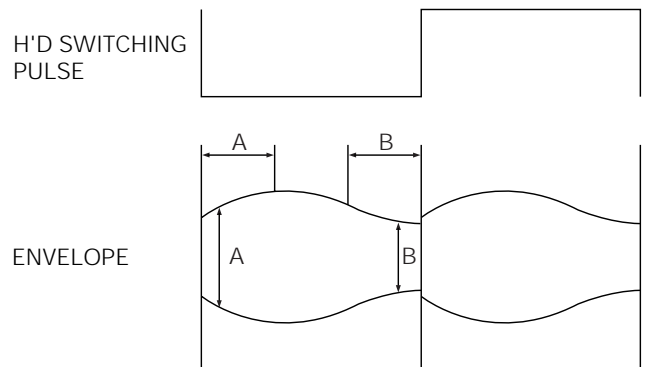

Fig. 4-5-8 Adjustment Points
4. If the section A in Fig. 4-5-8 does not meet the specification, adjust the guide roller S up or down.
5. If the section B in Fig. 4-5-8 does not meet the specification, adjust the guide roller T up or down.